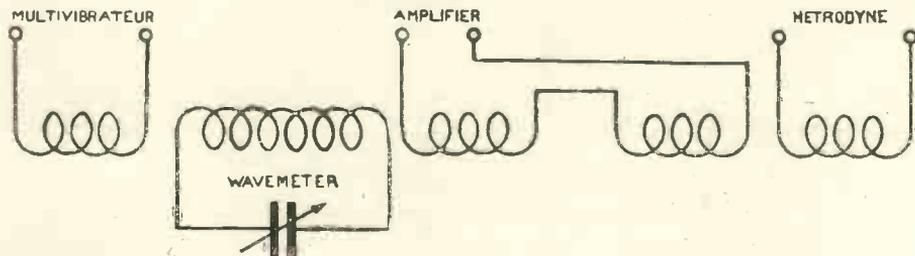

Fig. 2.
- (c) The wavemeter is now calibrated by comparison with a harmonic of known order. Electrical resonance is utilised for this adjustment. The wavemeter circuit is coupled very loosely both with the multi-vibrateur circuit and also with a detector-amplifier. A heterodyne circuit is loosely coupled to the latter to enable the adjustment to be made by means of an audible beat note. The arrangement used is shown in Fig. 2.